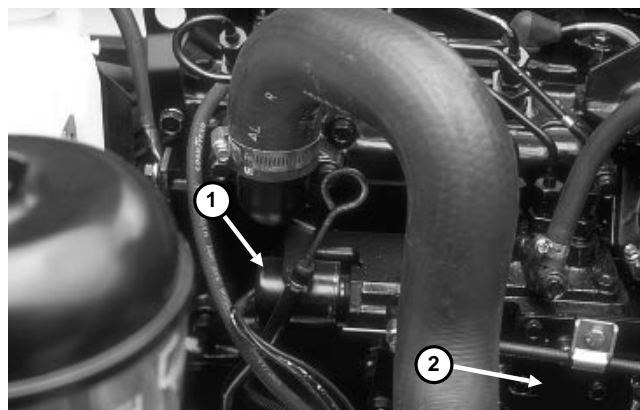

Figure 21
1. Disconnect the wire connector and remove the fuel stop solenoid from the engine (Fig. 21).